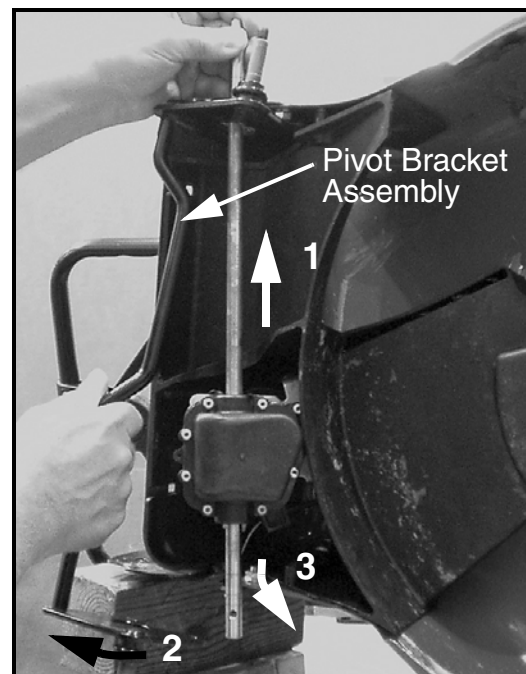

FIGURE 14
34. On the right (RH) side, remove and discard the transmission support bearing from the transmission's output shaft and plastic spacer clip.
35. Pull the transmission out partially from the deck and slide each end of the pivot bracket assembly off of each end of the transmissions' output shaft. Discard the pivot bracket assembly. See Figure 14.
57. Install the new Pivot Bracket Assembly, Item 2 of 753-05865, onto the transmission. Refer to Step 35 and Figure 14. Ensure that the offset in the pivot bracket rod is positioned at the transmission's body.